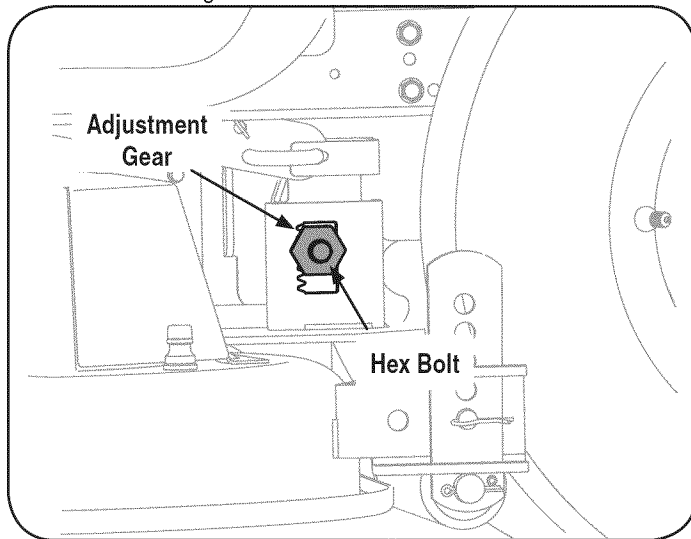

Figure 23
3. Loosen, but do NOT remove, the hex bolt on the left deck hanger bracket. See Figure 23.
4. Using a wrench, raise or lower the left side of the deck by turning the adjustment gear. See Figure 23.